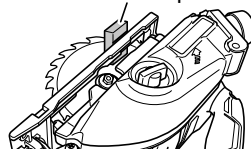

**Fig. 21**
- (1) Unfasten only the mounting screws of the saw cover hinge portion (**Fig. 21**).